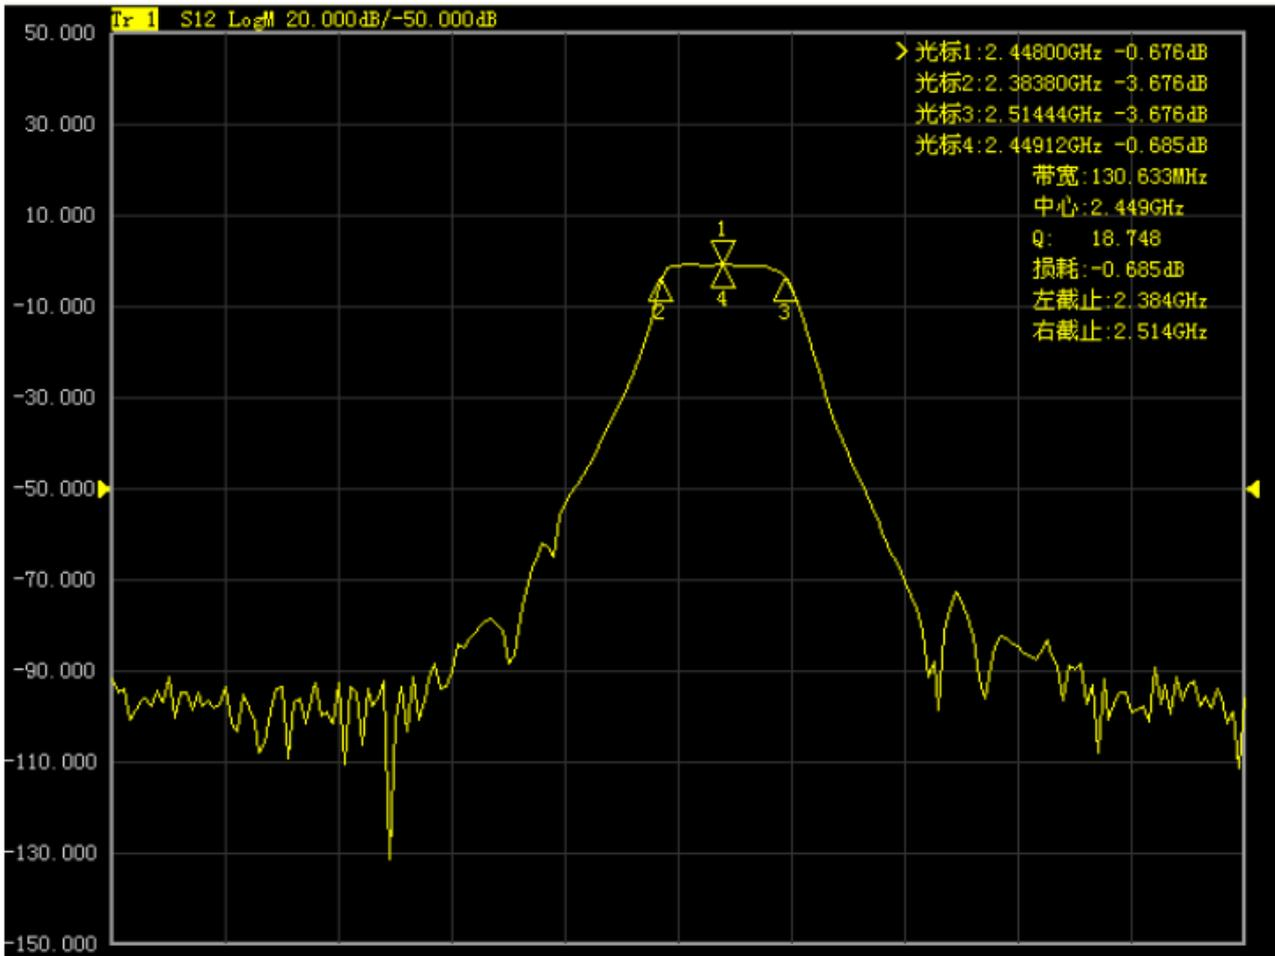

Fig. 3.50 Bandwidth Search
- ① If the **[Discrete cursor]** is selected in the **[Advanced cursor]** dialog box, the cursor will move to the discrete data point corresponding to the target value.
- ② If the **[Discrete cursor]** is cleared in the **[Advanced cursor]** dialog box, the cursor will move to the interpolation data point corresponding to the target value.
- **Bandwidth:** if the **bandwidth** searching function is selected, set the **level** (default: -3dB) below the peak in the level box and measure the bandwidth at the set level, as shown in Fig. 3.50. Use Cursor 1-4 for measurement. Cursor 1 is used to search the maximum peak value, Cursor 2 to search the point of specified level on the left side of the peak, Cursor 3 to search the point of specified level on the right side of the peak, and Cursor 4 to search the center of the bandwidth. The following information will be displayed after measurement.